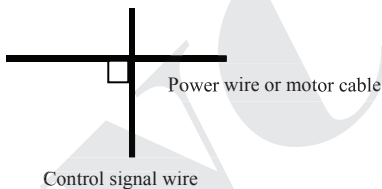

Fig.4-2 System wiring demand
(1) Inverter terminal motor connection wire (U,V,W terminal output wire) and inverter terminal power connection wire (R,S,T terminal input wire) should keep distance enough as possible as can.
(2) U,V,W terminal 3 motor wires should be placed in metal tube or metal wiring tank as possible as can.
(3) Generally control signal wire should use shield cable, when shield layer connect to inverter (⊕) terminal, it should be the single end earth grounding which closed to inverter side.
(4) Inverter (⊕) terminal earth grounding cable must directly connect to floor, it cannot connect to earth grounding through other device, and the location of earth grounding should close to inverter as possible as.
(5) Strong current cable (R,S,T,U,V,W) cannot parallel wiring closely with control signal wire, and bundled together is prohibited. It should keep distance from over 20~60 cm (Relative to strong current size). When it's necessary to intersect, it should be **orthogonal crossing**, show as Fig.4-2.